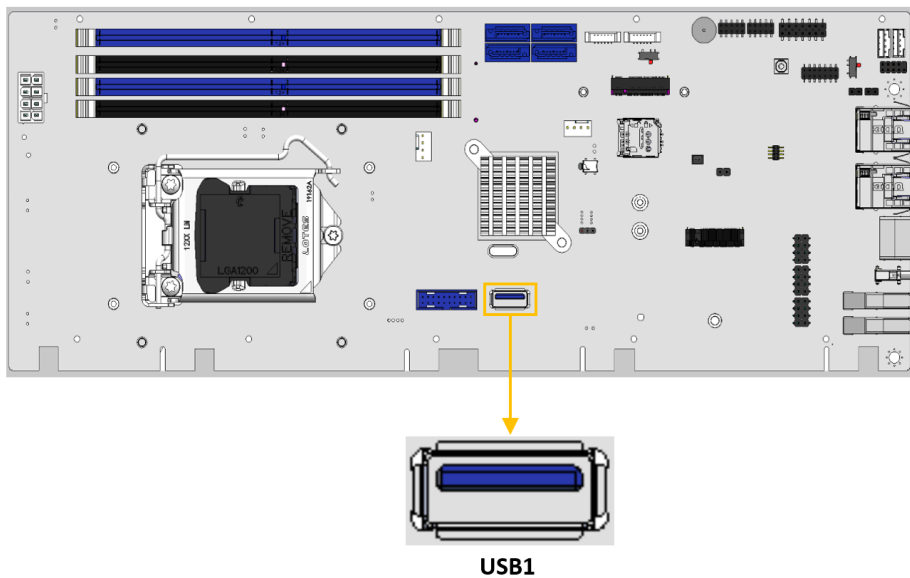

Figure 3-26: Internal USB 3.2 Gen 1 Connector Location
- CN Location:** See Figure 3-26